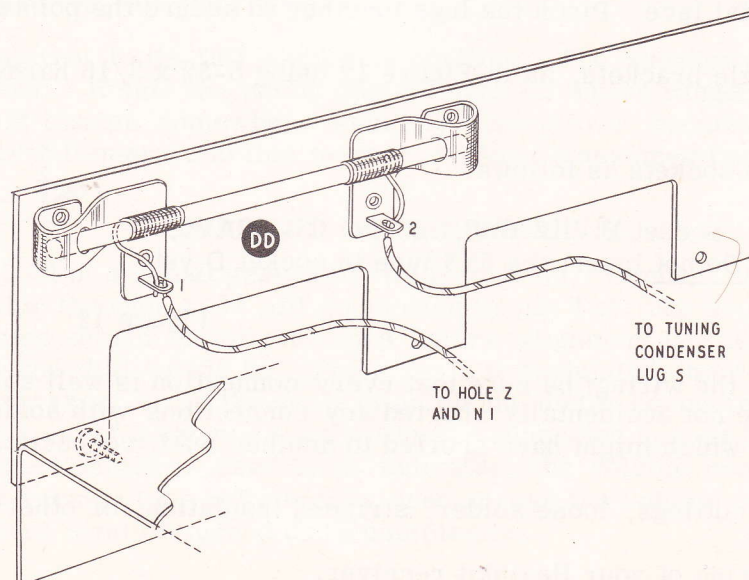

Figure 9
- () Install a .05 μ fd condenser from 110 volt socket F2 (NS) to D11 (S).
- () Twist together two pieces of wire about 20" long. Strip all four ends. Connect one end of one wire to W1 (S) and the adjacent end of the other to W2 (S). Run these wires down through hole Y, along the front edge of the chassis, and through cable clamp Q. At the other end of this twisted pair, connect either wire to F1 (S) and the other wire to D5 (NS). This is a blank pin and is used as a tie point. Tighten screw Q.
- () Pass a line cord through the grommet at G. Tie a knot in the cord for strain relief at a point about 3" from the stripped ends. Connect one of the leads to F2 (S) and the other to D5 (S).
- () Install the rod antenna assembly DD at the back of the chassis using #6 sheet metal screws. Make sure that the rod faces inward toward the tubes. Handle this assembly with care, for a sharp blow of any kind can seriously affect the characteristics of the antenna. Refer to Figure 9.